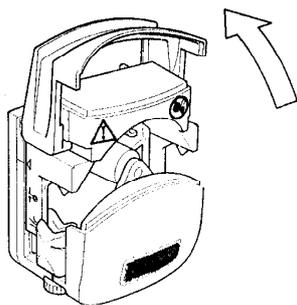

Fig 2A
3. Turn power off, and open the pumphead as shown in fig 2A.